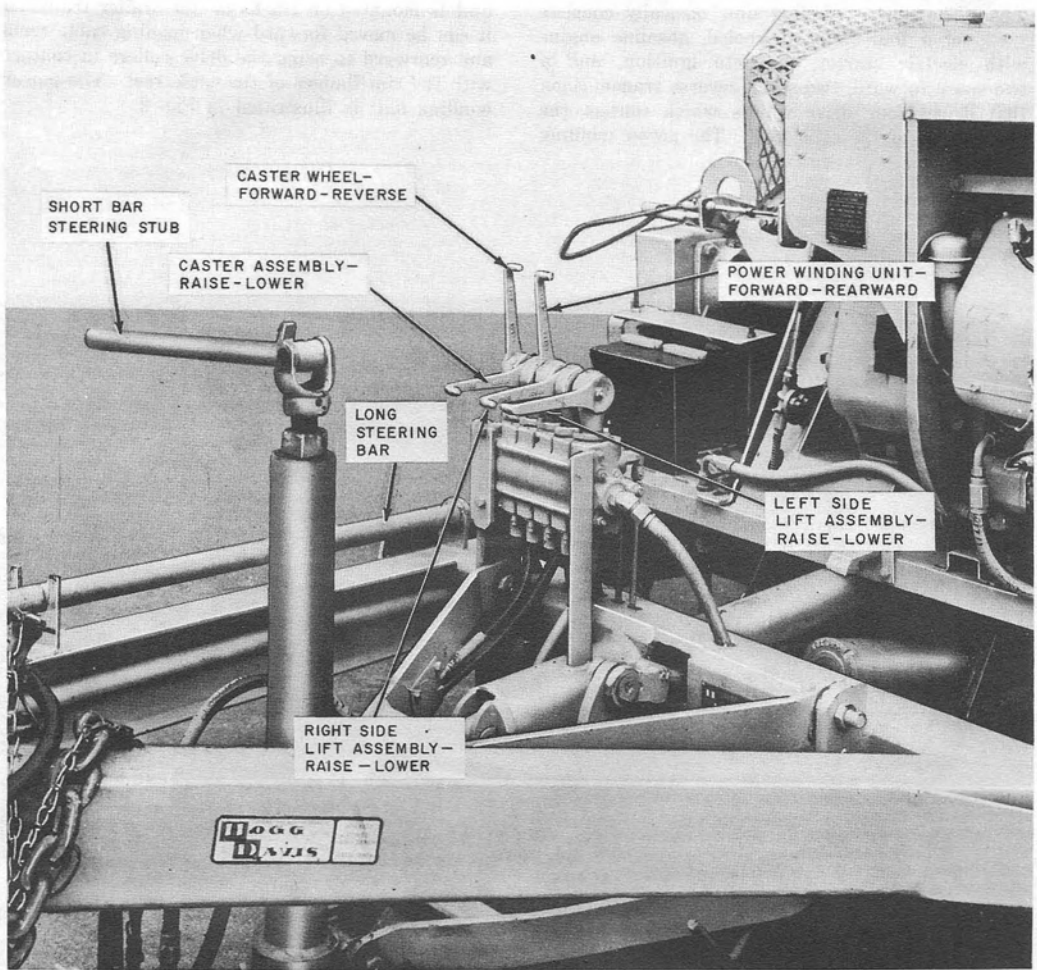

Fig. 2—Hydraulic System Control Handles
2.04 The pump for the hydraulic system is driven by a gasoline engine which is a part of the power winding unit. The hydraulic pump supplies hydraulic oil at 1300 psi to the valve bank assembly which includes control handles for raising and lowering the lift assemblies, raising and lowering the caster wheel assembly, driving the caster wheel forward or reverse, and moving the power winding unit forward or rearward on the trailer frame. Figure 2 illustrates the control handles on the valve bank assembly.